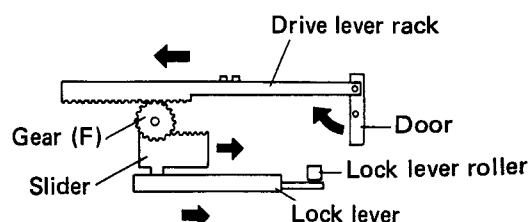

Fig. 2-2 Door operation 1
4. The movement of the lock plate, however, is amplified by slide gear (F) to a stroke of about 50mm, thereby raising the door via the drive lever rack (see Fig. 2-2).